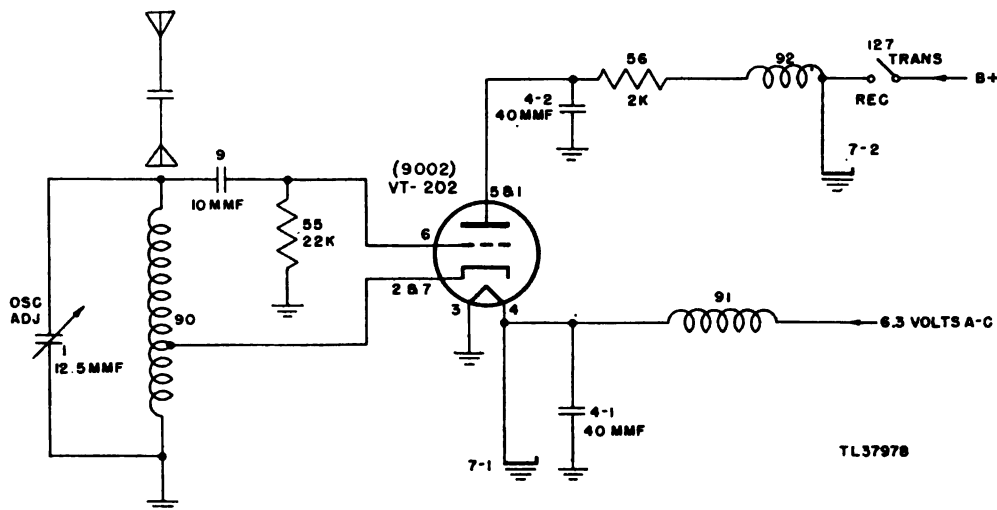

Figure 67. Auxiliary oscillator, partial schematic.
**a. GENERAL.** When it is desired to tune the receiver to the transmitter frequency, the use of the other stage in the wavemeter, the auxiliary oscillator, is needed (fig. 67). This is switched into the circuit by throwing switch 127 to REC position, which puts the proper voltage on the plate of the VT-202 (9002) and causes it to oscillate.